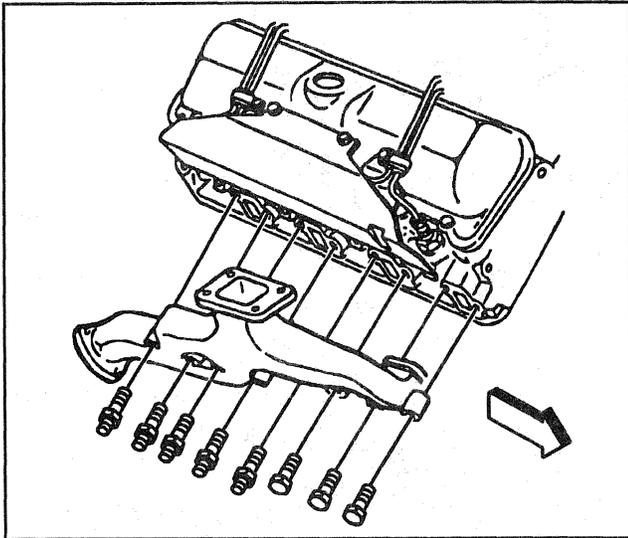

Figure 10—Exhaust Manifold and Heat Shield
12. Turbocharger assembly and exhaust manifold (Figures 10 and 11).
→← Install or Connect (Figures 10 through 13)
1. Turbocharger assembly and the exhaust manifold (Figures 10 and 11).